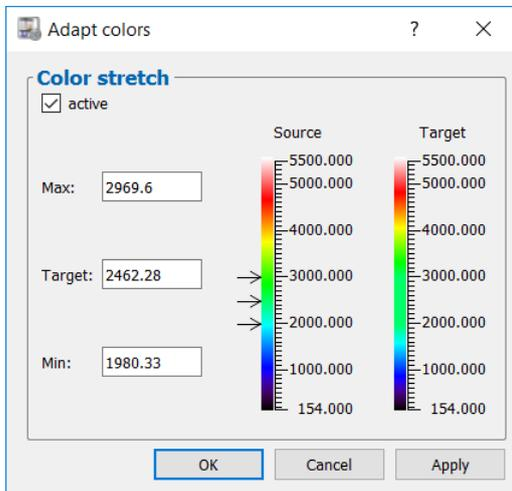

Fig. 3.47: "Adapt colors" dialog box
- **Adapt surface colors...:** You can vary the selected color palette and adapt it to your needs (see Fig. 3.47). The target color value will be stretched between the upper and lower limit. The color values outside the upper and lower limit will be shrunk.